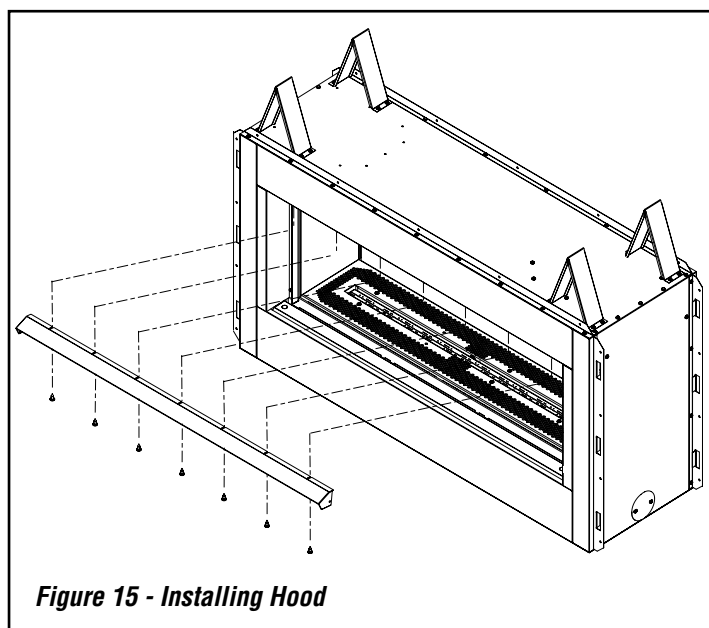

Figure 15 - Installing Hood
1. Loosen screws at top of face opening and slide hood through screws as shown in **Figure 15**.
1. Install hood as shown in **Figure 15, Page 11**.